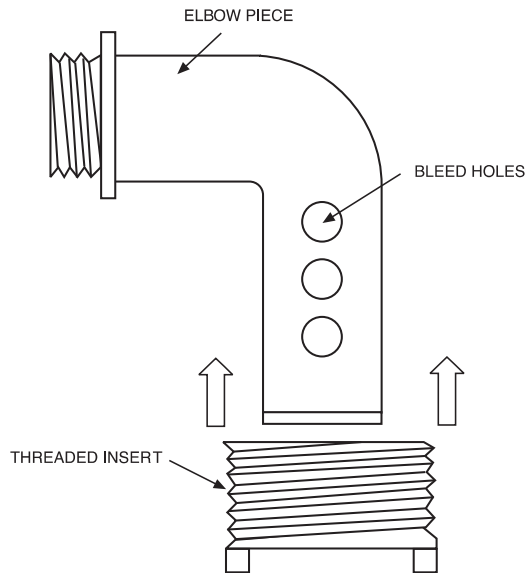

FIGURE 4
2. Slide the threaded insert (5) over the Elbow Piece (6) as shown in Fig. 4. The threaded insert (5) is a tight fit around the turn in the Elbow Piece (6) therefore, slight pressure is needed. This is your inlet adapter.
3. Refer to Figure 1. Uncoil the hose (3) and remove all twist. Using clamps (15), clamp one end of the hose to the back side of the fountainhead (1) and the other end to the inlet adapter from step 2. Cover one set of bleed holes with the hose (Fig. 4). To tighten clamp, grasp "tabs" between thumb and forefinger and squeeze. Tighten securely with a pair of pliers. To open the clamp, grip one "tab" of the clamp with pliers and twist loose.
4. Using the tie wrap (14), LOOSELY attach the anchor (4) to the hose (3). The anchor (4) should be attached to the hose (3) at a point as deep as the water plus approximately two feet. You will have to estimate what the water depth is where you want the fountain and add two feet. CAUTION: DO NOT CONSTRICT THE HOSE BY TIGHTENING THE TIE WRAP (14) TOO TIGHT.
6. Place the fountain assembly into the pool. Position the fountain in the desired location being careful not to crimp the hose (3).